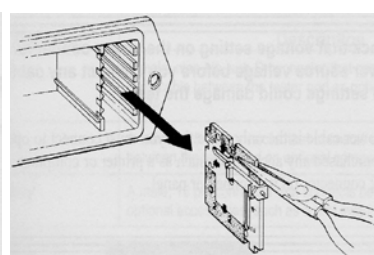

Figure 3-10 Remove Voltage selector
3. Use long nose plier to move the voltage selector card as Figure 3-10 illustrates.